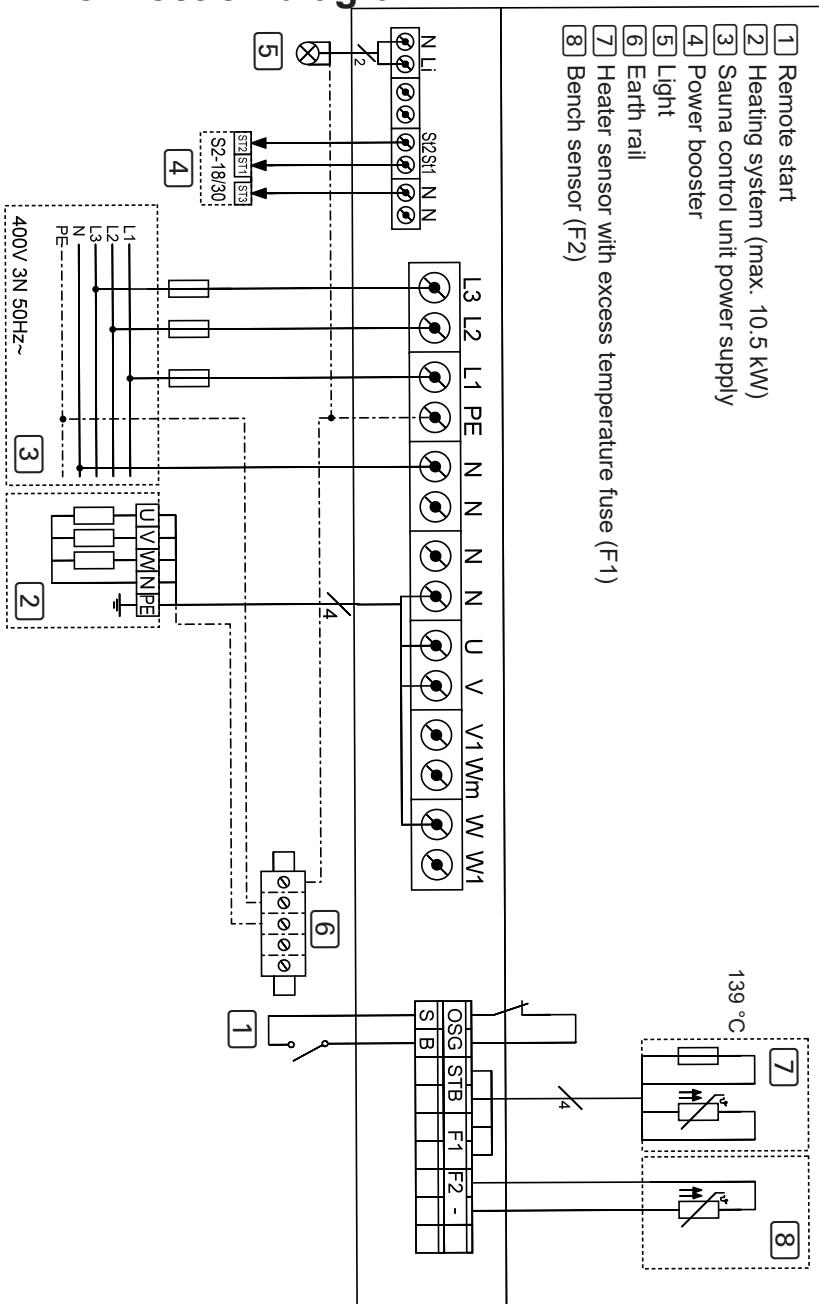

Fig. 4 Connection diagram
- Observe the connection diagram (**Fig. 4**) on page **20**.